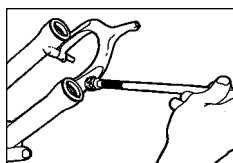

Fig. 6
- Then clean internals of lower tubes, bushings (two per leg), and Resi-wiper seal. A long 3/8" drive socket extension wrapped in a lint-free rag works well (see Fig. 6).